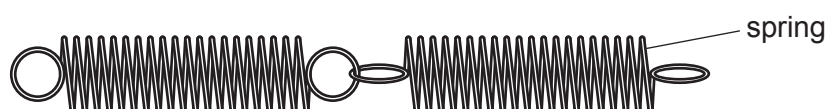

Fig. 2.1
- 1 Connect the two springs as shown in Fig. 2.1.